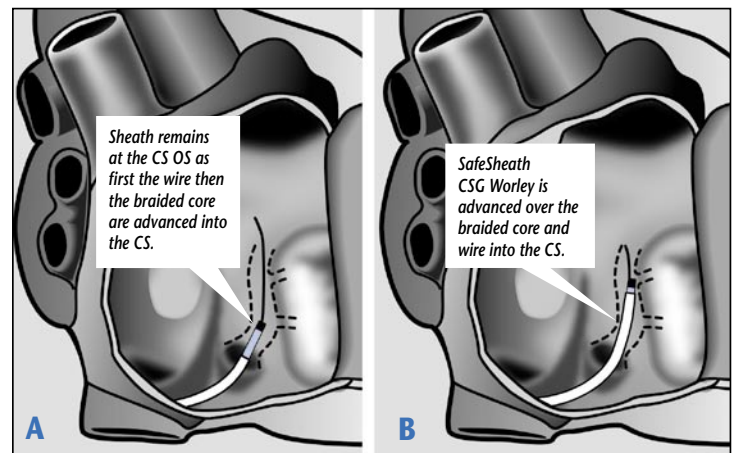

Figure 10. Guide wire and SafeSheath CSG Worley with Braided Core cannulate the CS.
Step 13 Once the CS OS is identified, advance the wire followed by the core then the sheath gently into CS (Figure 10). As the wire and core are advanced into the CS one ml puffs of contrast are injected to confirm the tip location and identify venous side branches that might catch the tip of the core and prevent the core from advancing beyond the OS into the CS. In some cases the wire or core will not advance beyond the CS OS due to an anatomic variant. Anatomic variants that prevent the wire and or core from easily passing beyond the CS OS are readily identified with contrast injection. The most common include the large proximal venous branch that catches the tip of the catheter, the extreme vertical CS and the sigmoid CS. Once the anatomic variant is identified specific maneuvers can be applied to overcome the obstacle.